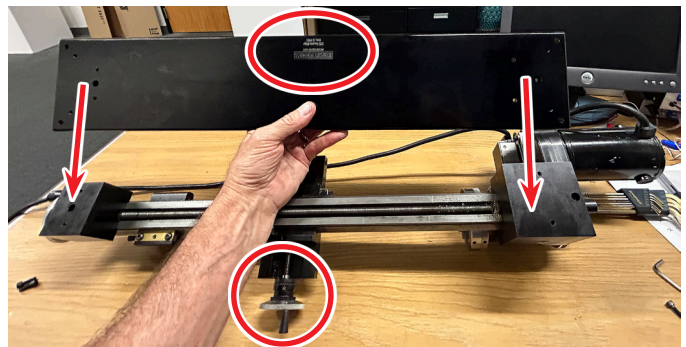

FIGURE 9
8. With your lathe upside down and the headstock end to the right side, your lathe base will be assembled with the laser logo on the same side as the crossslide handwheel. The base surface shown in the picture is the top of the base. This surface will be mounted to the bottom of the headstock and tailstock mounts. The mounting holes for the headstock and the tailstock are entirely different. Therefore, the base can only be mounted one way (see Figure 9).